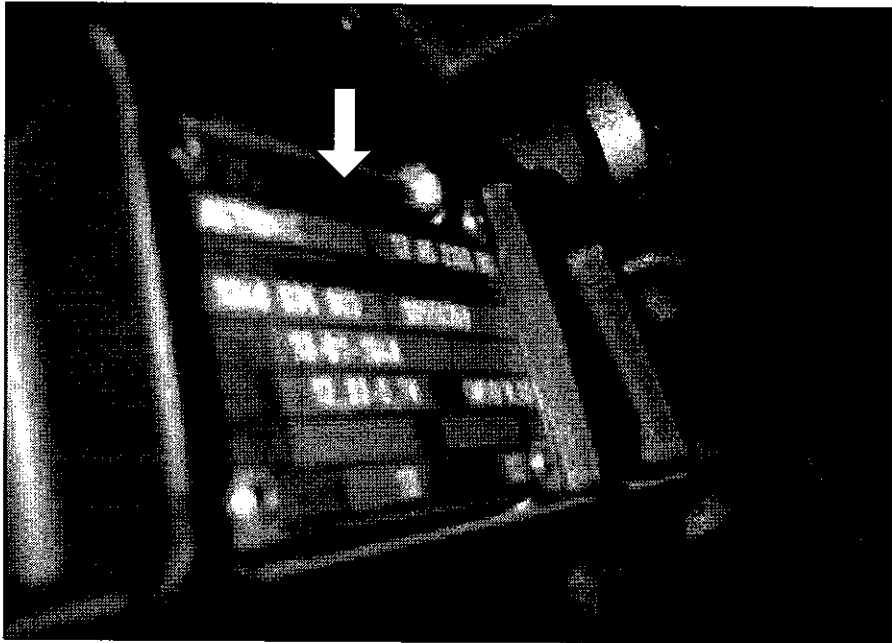

Figure 5. ZF transmission serial number plate.
- 21. Locate the blue w/ silver serial number plate on the curbside of the transmission (refer to Figures 5 and 6).
- 24. Carefully align and apply the applicable decal, p/n 13-01-1096 **or** 13-01-1097 over the existing transmission serial number plate (refer to Figure 5). Discard other decal.